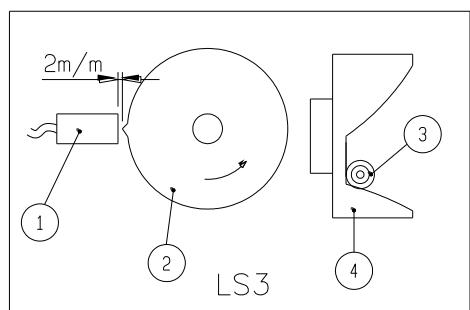

Fig.5.7
**LS3:** LS3 decides whether the control assembly returns to the home position. We adjust the limit switch cam (②) to control the action time(See Fig.5.7).